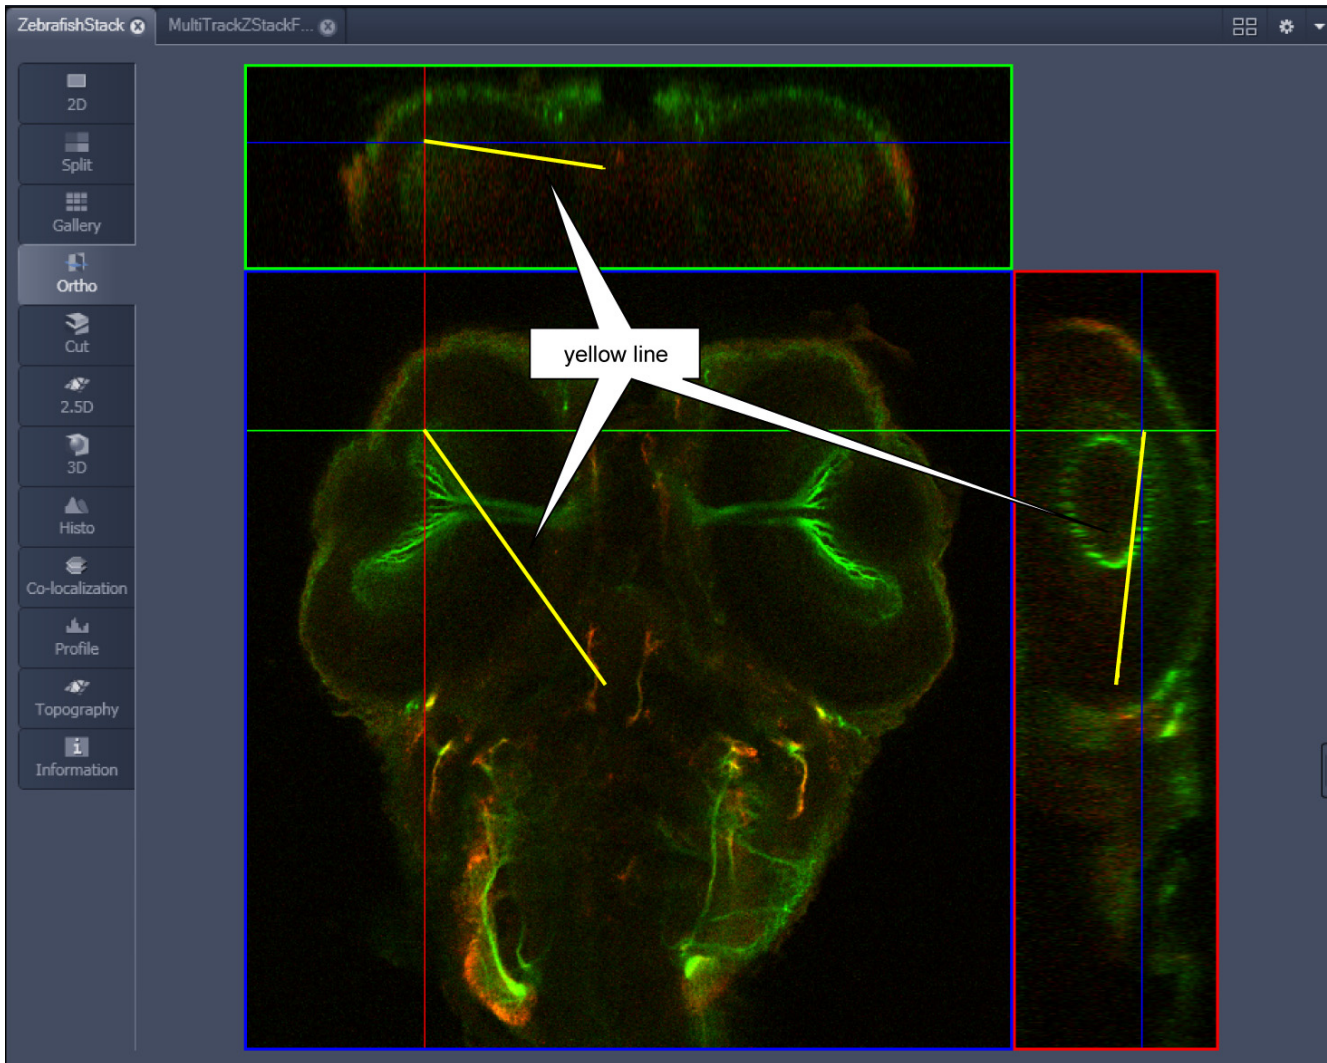

Fig. 6-21 Image Display – Ortho View - 3D Distance Measurement display
- The projections of the spatial distance are shown in the image planes by yellow lines (Fig. 6-21).